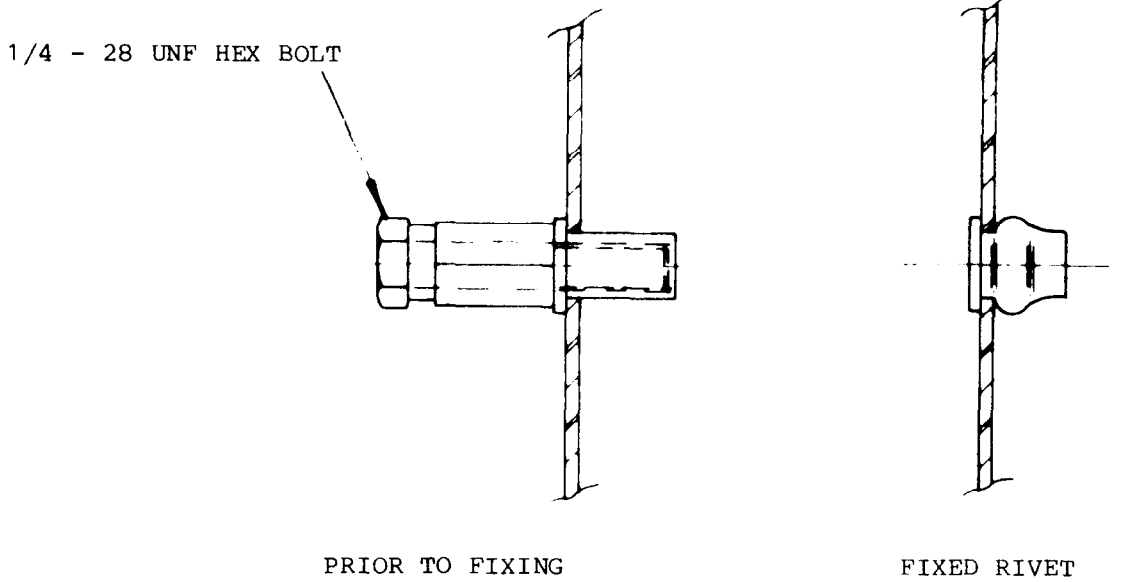

FIG 3 - USING THE TAP RIVET INSERTING TOOL
11. To use the tool, assemble it to the tap rivet as shown in Fig 3A, together with a 1/4 inch - 28 UNF Hex Hd Bolt and insert the assembled items into the prepared hole (see sub-paragraph 8 b.). With the rivet flange held firmly against the panel, hold the hexagon spacer with a spanner and tighten the bolt. The completed rivet formation is shown in Fig 3.